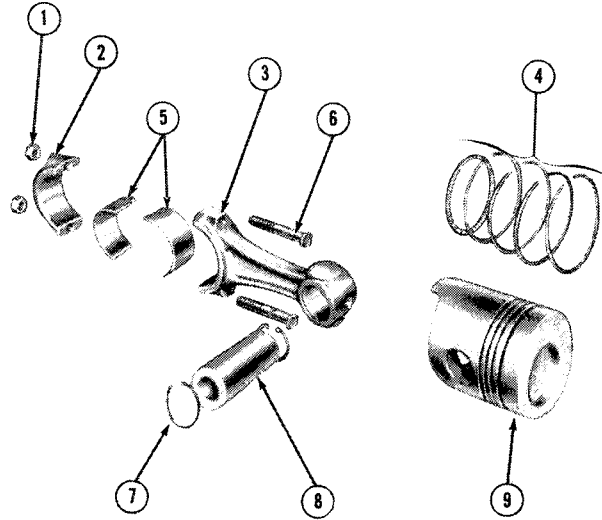

Figure 43
3. Identify each piston and rod for reassembly, Figure 43.